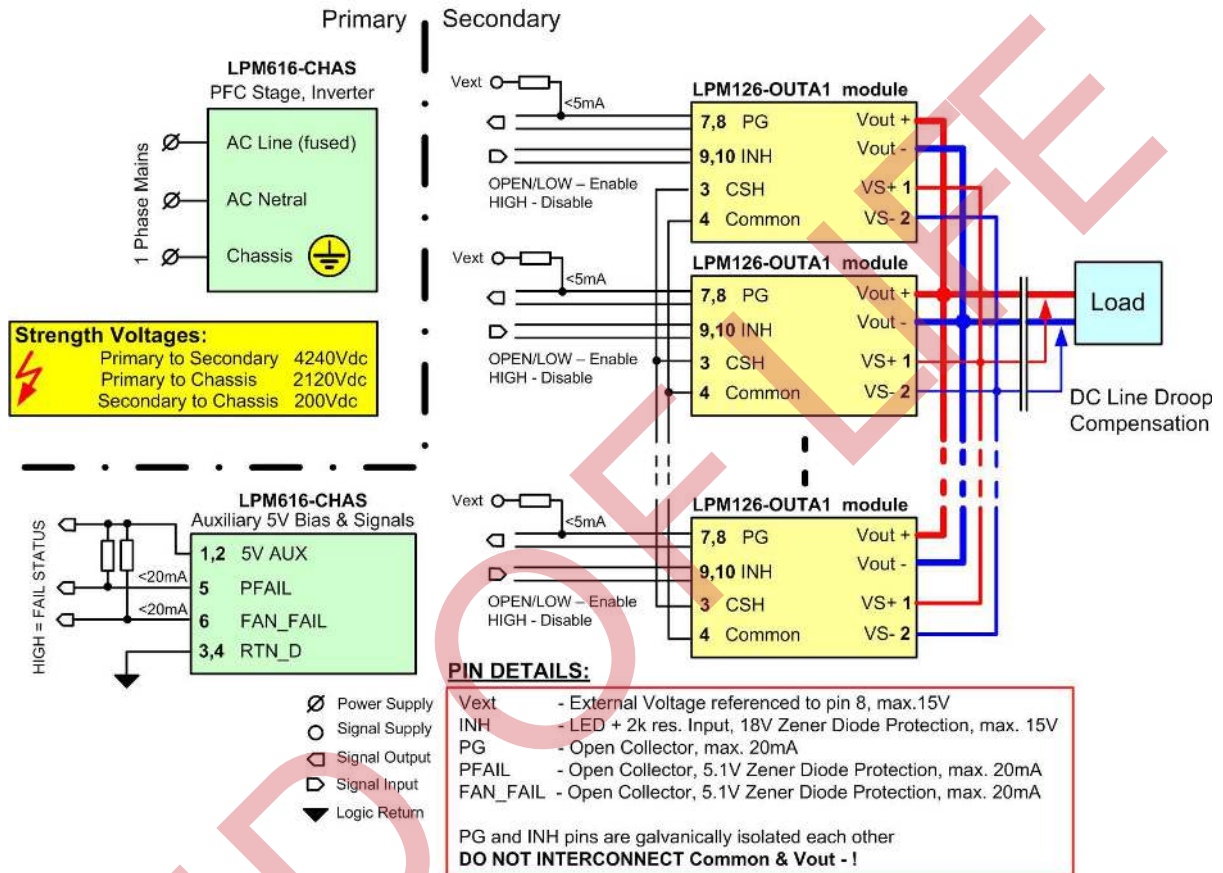

Figure 15. LPM616 – Paralleling Connection Diagram for LPM126 Modules
- ³ The interconnection is shown in *Figure 15* (especially all pins 3 - CSH and all pins 4 - Common must be reconnected). Modules K-N cannot be connected in parallel.